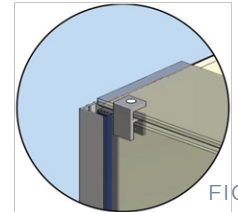

FIG.10
- fasten chrome brackets to overhead brace and sit in place above door gap (FIG 10)